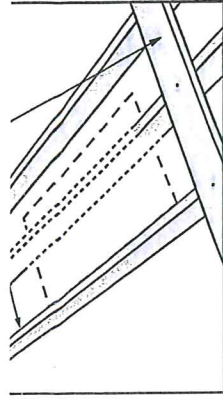

FIGURE 14
- Secure using (B) 16d nails into each end of the Header.
**B. Rough opening with joist removal (figure 14)**